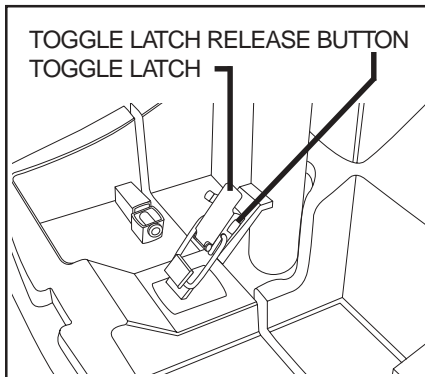

Figure 18. Toggle Latch (Latched)
1. Push in the toggle latch release button while pulling back the toggle latch. See figures 18 and 18A.
5. Latch the toggle latch. See figure 18.